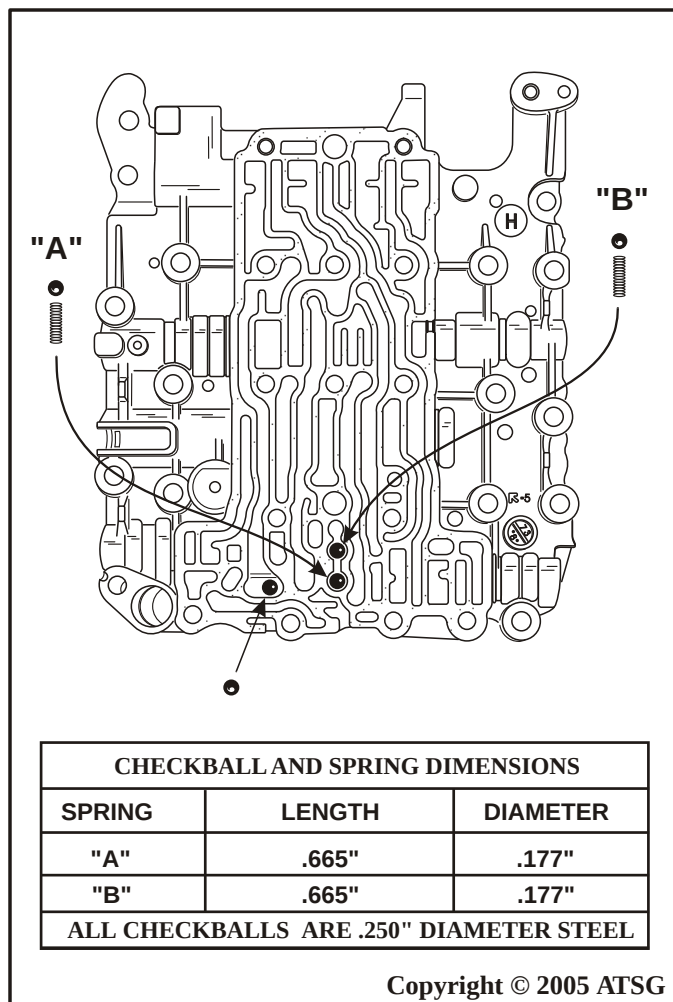

Figure 148
25. Turn the valve body over with the spacer plate facing down, as shown in Figure 148.
26. Install the "A" check ball and spring with the spring going in first, as shown in Figure 148.
27. Install the "B" check ball and spring with the spring going in first, as shown in Figure 148.
28. Install the last check ball into the bath tub, as shown in Figure 148.
Note: Spring and check ball dimensions are shown in Figure 148.